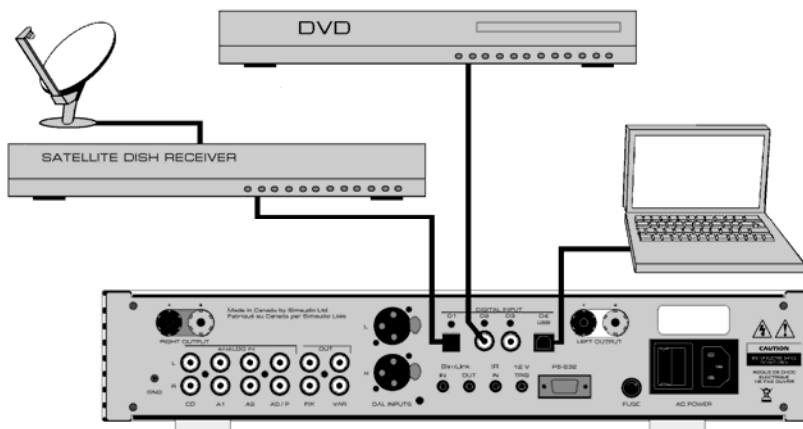

Figure 2: MOON 340i Optional Digital Inputs – connection examples
There are two (2) different settings available for setting the resistive load; 100 $\Omega$  and 47k $\Omega$  which are represented by jumper sockets R9 for the left channel and jumper socket R24 for the right channel (refer to figure 2 – section labeled "LOADING"). The factory default setting is 47k $\Omega$ , therefore both jumpers will be found in each of the two left most sockets.
There are two (2) different settings available for the capacitive load; 0pF and 100pF which are represented by jumper sockets C9 for the left channel and jumper sockets C17 for the right channel (refer to figure 2 – section labeled "LOADING"). The factory default setting is 100pF for a moving magnet cartridge, therefore both jumpers will be found in each of the two right most sockets.
There are two (2) different settings available for gain level. They are 40dB for MM cartridges and 60dB for MC cartridges, which are represented by jumper socket J17 for the left channel and jumper socket J22 for the right channel (refer to figure 2 – section labeled "GAIN"). The factory default setting is for a MM cartridge, therefore both jumpers will be found in each of the two right most sockets labeled MM; ***It is highly recommended that you do not use the jumpers labeled MC for an MM cartridge as this will overload the preamplifier.*** In the event that you're using a MC cartridge, you should insert the supplied jumpers into each of the two left-most sockets labeled MC.
The rear panel will look similar to Figure 2 (above). There are four (4) pairs of single-ended analog inputs on RCA connectors labeled CD, A1, A2 and A3/P. The left channel inputs are located on top and the corresponding right channel inputs are located directly below. In the event that your **MOON 340i** is equipped with the aforementioned optional phono section, the input labeled 'A3/P' must be used to connect your turntable interconnect leads to this integrated amplifier. If you don't have the optional phono section installed, then this input can be used in the same way as CD, A1 and A2 inputs.